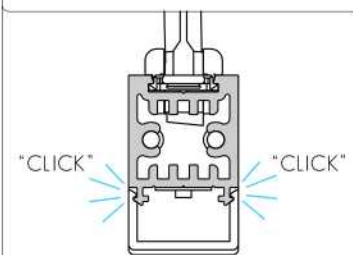
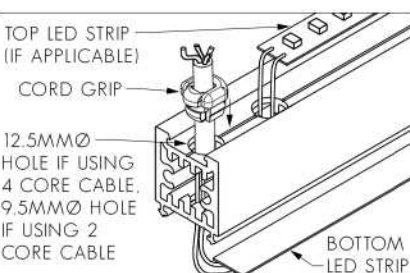

FIG. 6 - SCREW BRACKET TO CEILING, PUSH COVER ON
FIG. 5 - INSERT CABLE BASE IN TO CEILING
3. PUSH CABLE BASE INTO HOLE IN CEILING - SEE FIG. 5 OR FIG. 6 FOR SURFACE MOUNTED CABLE BASE.